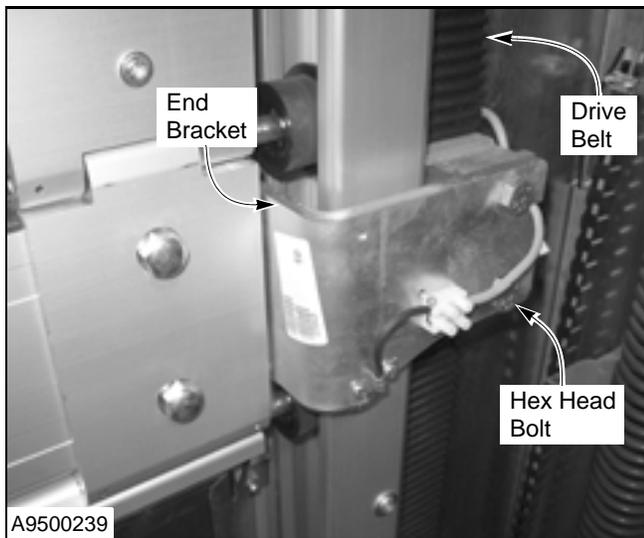

Figure 85
- Mounted on the bottom corner of the door is an end bracket (one in each corner). This bracket is clamped around the two ends of the drive belt. With a visible marker, mark the location of the end bracket on the drive belt. (See Figure 85.)
- Release the end bracket from the drive belt by loosening the hex head bolts located on the face of the bracket. (See Figure 85.)
- Drop the bracket a notch or two on the belt to lower the corner of the door. Tighten the bolts to lock the bracket to the belt. (See Figure 85.)